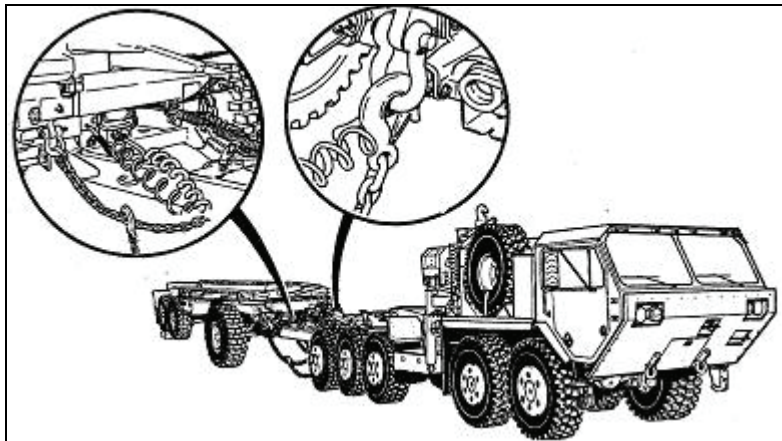
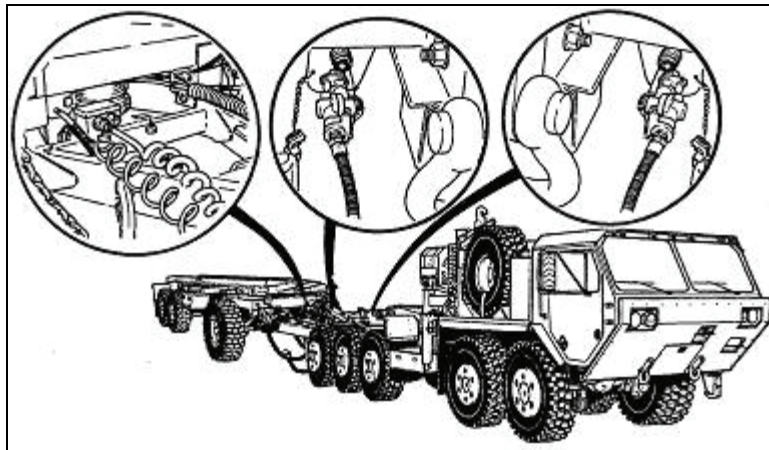

Figure 3-20a. Coupling
Figure 3-20b. Coupling (continued)
1. Couple vehicle to trailer (for vehicle-trailer combinations other than PLS) (see Figure 3-20a, Figure 3-20b, and Figure 3-20c).